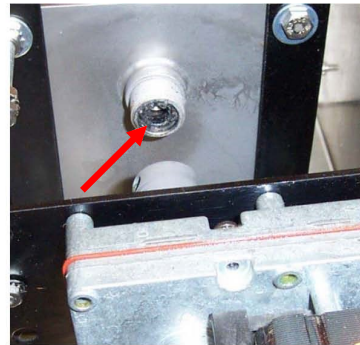

Figure 8
12. Using a small screwdriver, remove the two carbon ropes and the one compressed graphite cylinder (Figures 8 & 9). When removed, the old packing will look like the items in Figure 10. Ensure that both ropes have been removed or the new packing will not fit or seal properly.